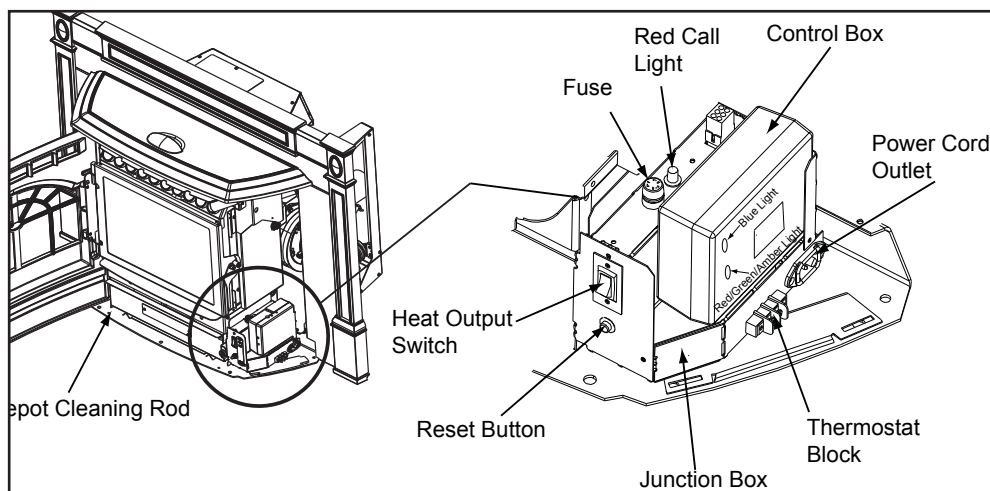

Figure 27.1
3. Locate the heat output control switch on the lower right side of the firebox behind decorative front door. Set to the HIGH setting and then adjust the thermostat to its highest setting. The red call light will be on which is located on the top of the junction box behind the right access panel. This indicates the thermostat is calling for heat. **Figure 27.1.**
3. Occasionally the appliance may run out of fuel and shut itself down. When this happens, the red call light will be on. **See Figure 27.1 on page 27.**